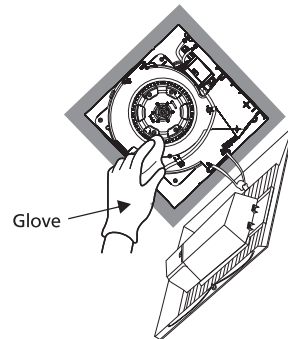

Fig.18
4. Using a cloth dampened with kitchen detergent, remove any dirt from fan body. Wipe dry with clean cloth. (Fig.18)